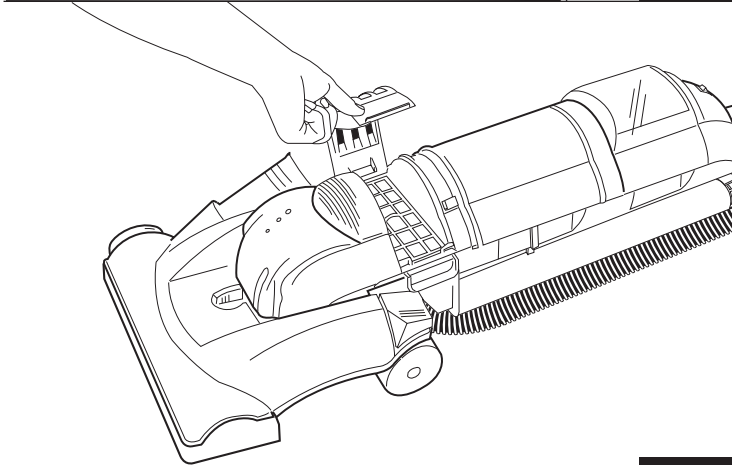

FIG. 18
Step 1: Remove the bottom filter cover by grasping the right edge and pivoting to the left (FIG. 18).